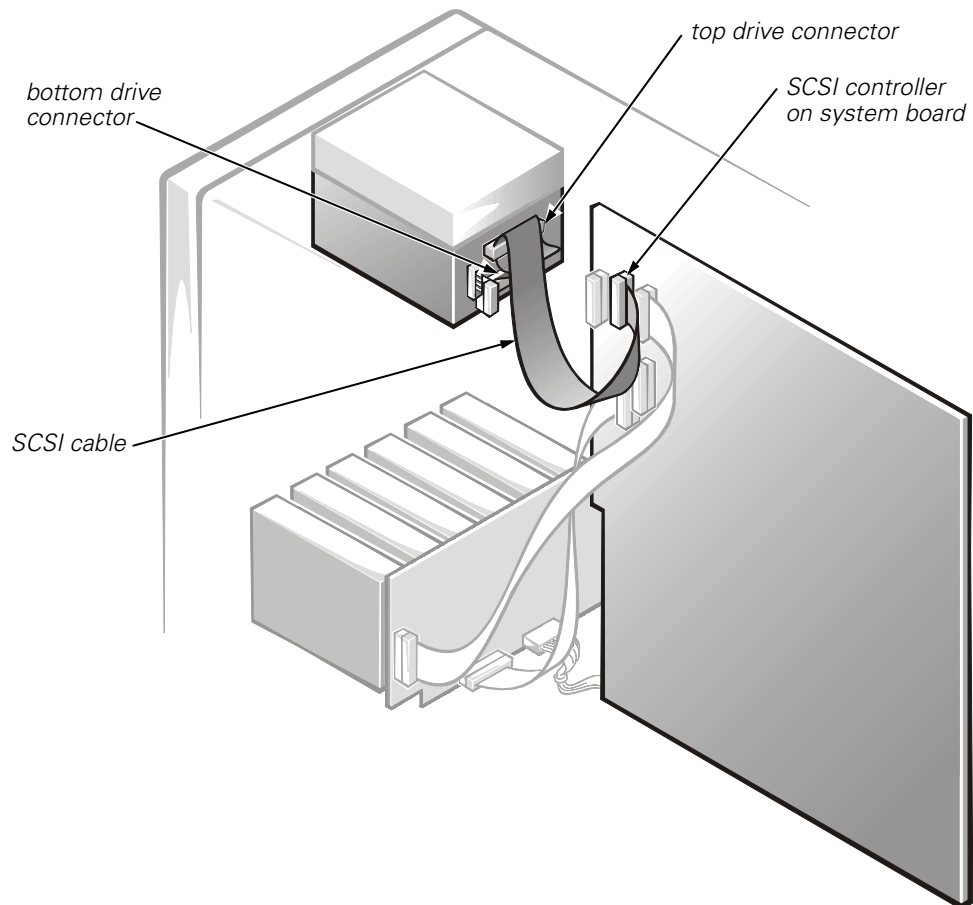

Figure 3. Installing the SCSI Cable to 1 x 2 Backplane
1. In the customer kit, locate the nonterminated 68-pin SCSI cable. (This cable has two connectors at one end and one connector on the other end. See Figure 3.)